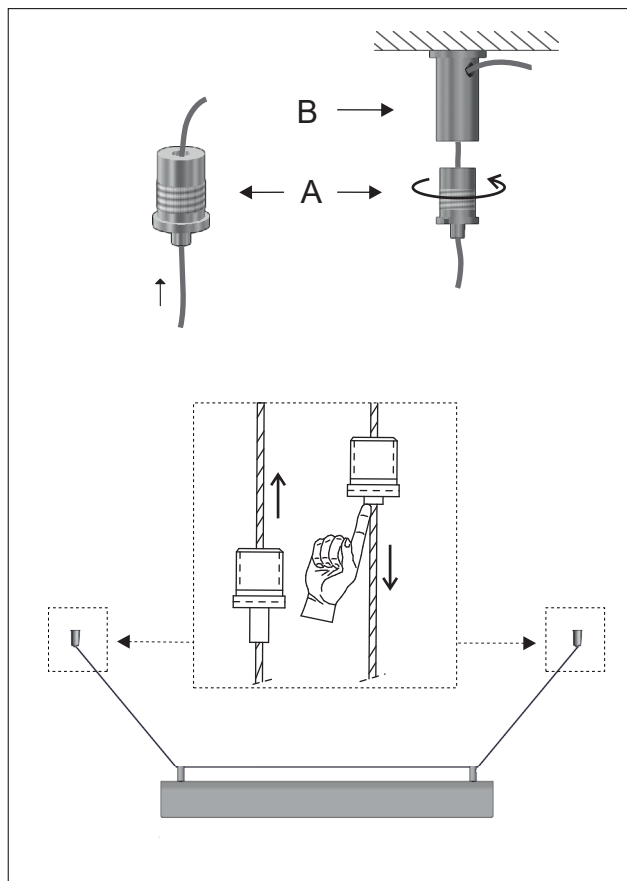

Figure 2
2 - Run the steel cable through one of the gripper supports (A) and then through the side hole of the tensor (B). Screw the gripper support (A) back to the tensor (B). Figure 2